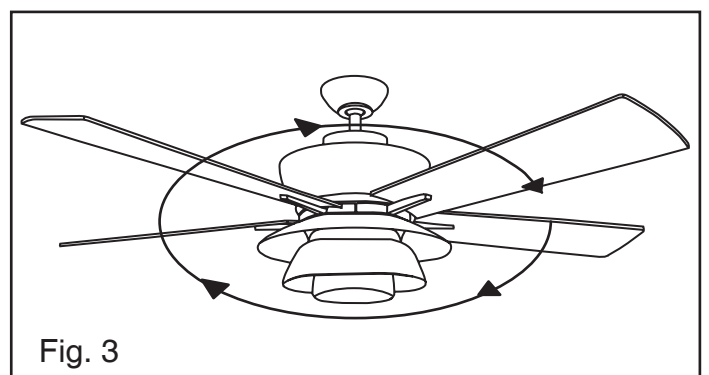

Fig. 3
Step 2. (Fig. 3 and 4) Motor to Receiver Electrical Connections: Connect the Black wire from the fan to Black wire marked "TO MOTOR L". Connect the White wire from the fan to the White wire marked "TO MOTOR N" from the receiver. Connect the Blue wire from the fan to the Blue wire marked "For bottom Light" from the receiver. Connect the Orange wire from fan to the Orange wire from receiver marked "For Upper Light". Secure wire connections with the plastic wire nuts provided.
Step 3. (Fig. 3 and 4) Receiver to House Supply Wires Electrical Connections: Connect the black (hot) wire from the ceiling to the black wire marked "AC in L" from the receiver. Connect the white (neutral) wire from the ceiling to the white wire marked "AC in N" from the Receiver. Secure the wire connections with the plastic wire nuts provided.
Step 4. (Fig. 3 and 4) If your outlet box has a ground wire (green or bare copper) connect it to the fan ground wires; otherwise connect the hanging bracket ground wire to the mounting bracket. Secure the wire connection with a plastic nut provided. After connecting the wires, spread them apart so that the green and white wires are on one side of the outlet box and black and blue wires are on the other side. Carefully tuck the wire connections up into the outlet box.
Cool weather-(Clockwise direction) An upward airflow moves warm air off the ceiling area.(Fig. 3) This allows you to set your heating unit on a lower setting without affecting your comfort.